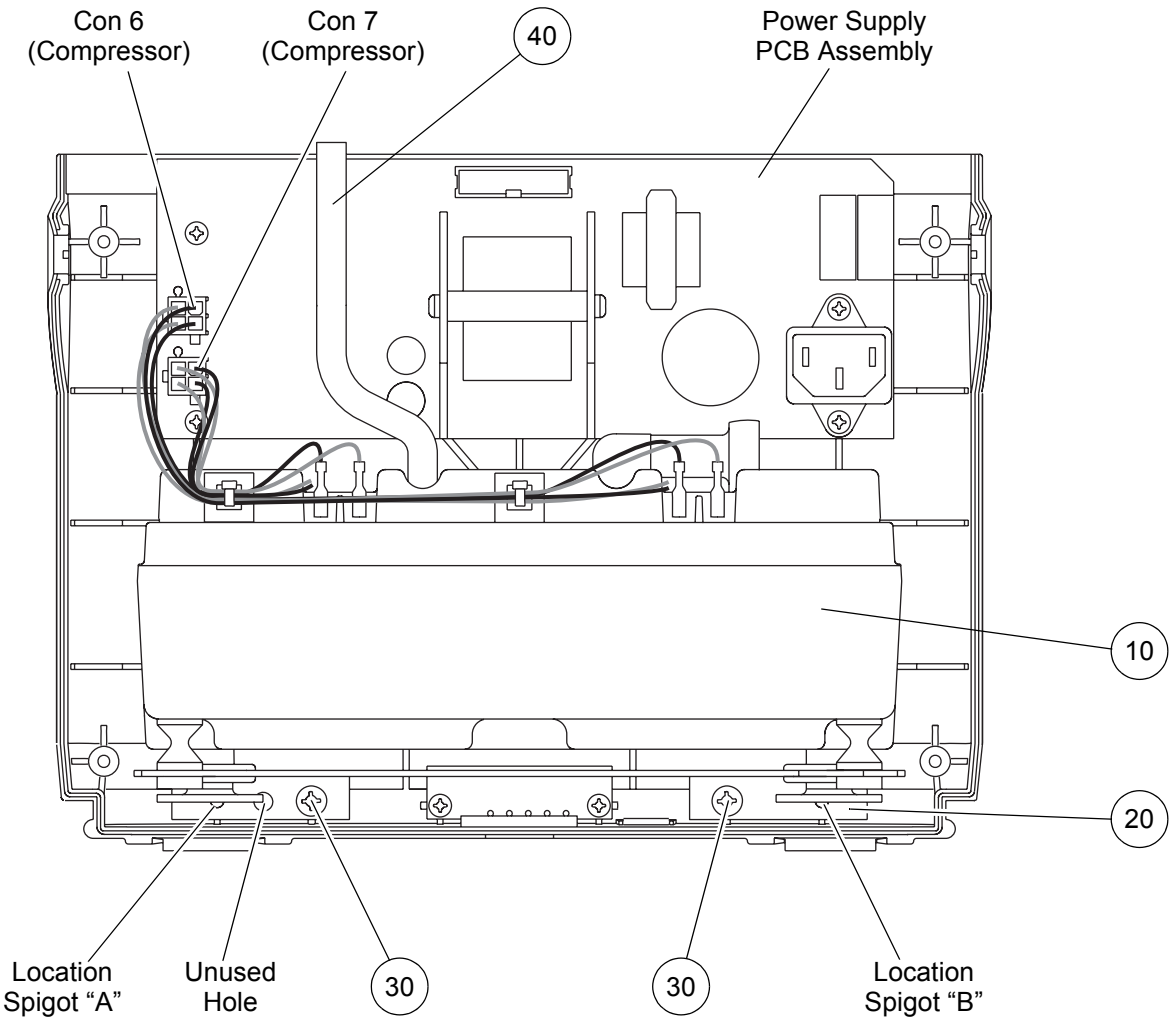

Figure 27 - Replacing the Compressor Assembly
- 20.2 Disconnect the large diameter tube (Fig 27, Item 40) from the outlet port on the top of the compressor assembly.
- 20.3 Disconnect the two compressor cable connectors (Fig 27, PCB Con 6 and 7) from the power supply PCB assembly.
- 20.4 Remove the two screws (Fig 27, Item 30), and lift the compressor assembly and mounting bracket (Fig 27, Items 10 and 20) out of the front case assembly.
- 21.1 Before installing the compressor assembly and mounting bracket (Fig 27, Items 10 and 20), check the following parts are installed correctly on the top of the compressor assembly:
- Note:** Make sure the two locating holes at the outer ends of the mounting bracket are installed over the corresponding location spigots "A" and "B" in the front case (refer to Figure 27).
- 21.3 Install the two pozi screws (Fig 27, Item 30) through the mounting bracket (Fig 27, Item 20) and into the front case.
- Note:** One hole in the left side of the mounting bracket is not used (refer to Figure 27).
- 21.4 Connect the large diameter tube (Fig 27, Item 40) onto the outlet port on the top of the compressor assembly.
- 21.5 Connect the two compressor cable connectors (Fig 27, PCB Con 6 and 7) onto the power supply PCB assembly.